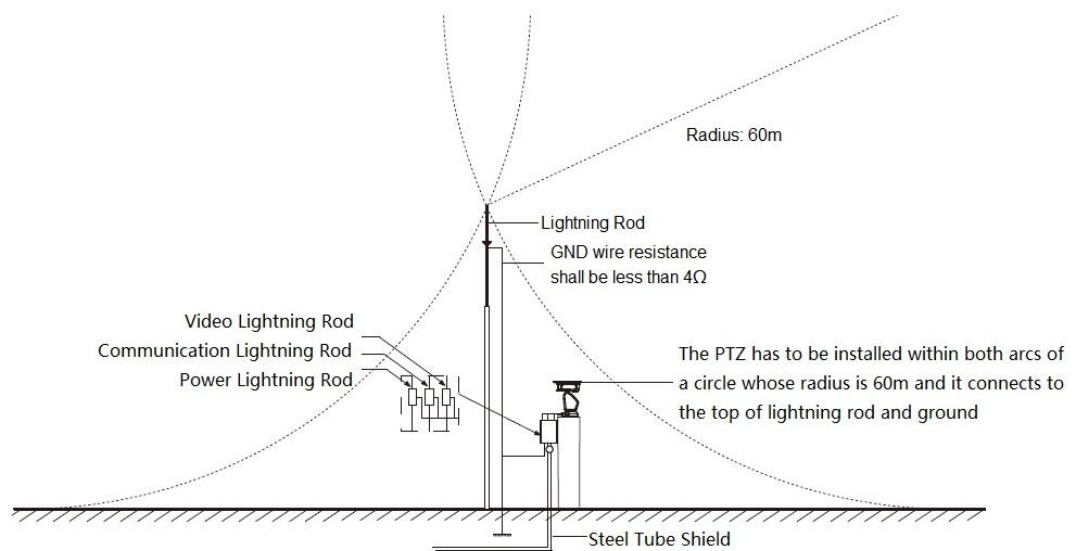

Figure 4-1
- System shall adopt equal-potential wiring. The earth device shall meet anti-jamming and at the same time conforms to your local electrical safety code. The earth device shall not short circuit to N (neutral) line of high voltage power grid or mixed with other wires. When connect the system to the earth alone, the earth resistance shall not be more than  $4\ \Omega$  and earth cable cross-sectional area shall be more than  $25\ \text{mm}^2$ . See Figure 4-1.